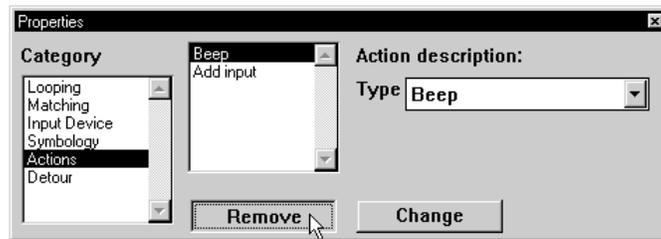

Figure 4-17 Remove Beep Action
19. Click **Remove** to delete the action from the list (Figure 4-17).